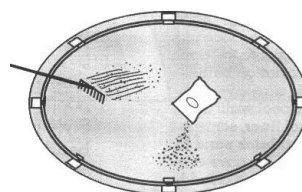

fig. 20
g) Prior to the installation of the liner spread a thin layer of sieved sand (no stones) on the inner area, with a thickness of 5 cm. Use a rake to ensure that there are no depressions or slopes, fig. 20